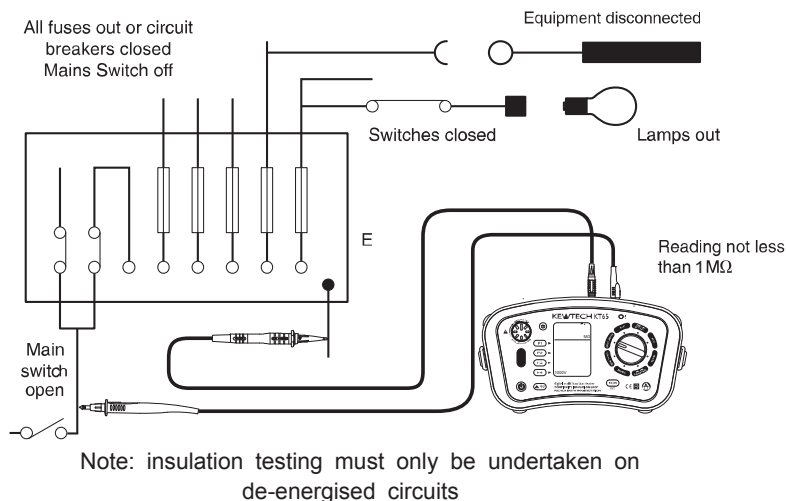

Fig. 21
- 5 Attach the test leads to the circuit or the appliance under test (see Figs 21 & 22)